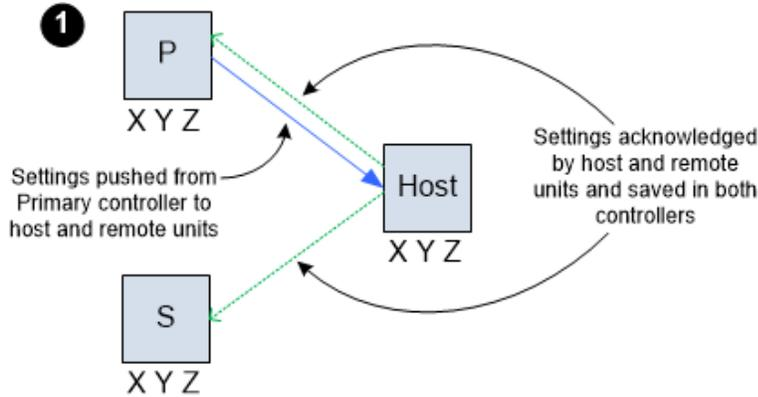

Figure 12-5: Settings Maintained by the Primary Controller
For example, in Figure 12-5, the Primary controller (P) maintains the system configuration settings (XYZ) and pushes them to the host and remote units. The host and remote units acknowledge the settings to the Primary and Secondary controller (S), keeping configuration data up to date on all units.